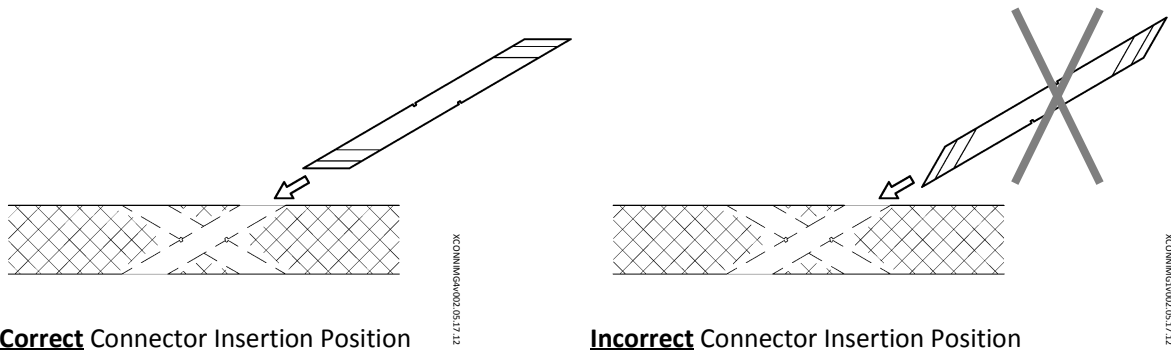

Figure 2 -Be sure ties are inserted in the correct position as shown. The sharp edge must never be inserted downward.
- A. Through one of the slots in the top of a LB located from step 3 above, insert tie as shown in **Figure 2**. Ties should be inserted with the flat, cut edge parallel to the top face of the insulation and parallel to the face concrete. The angled edge of the tie should never point downward as shown in the graphic below right.